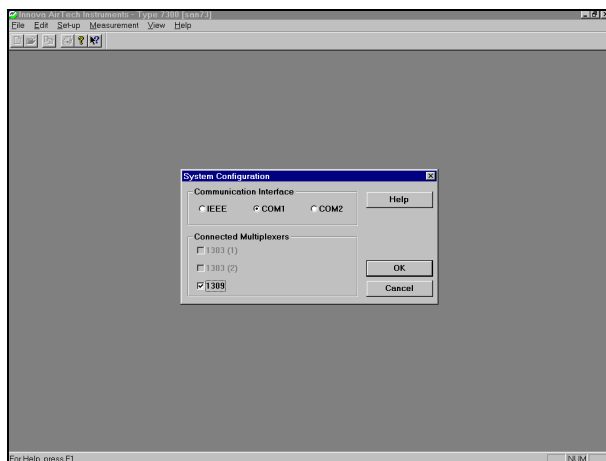

Fig. 4.3 The System Configuration dialogue
1. Pull down the **Set-up** menu. Click on **Configuration**. The System Configuration dialogue will be displayed, Fig.4.3.